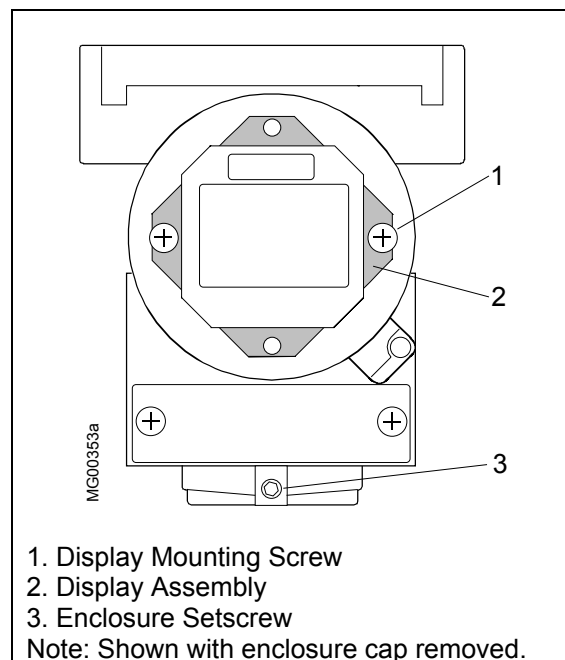

FIGURE 4-14 Display Removal and Repositioning
4. Use a Phillips blade screwdriver to remove the two screws holding the display. The display is electrically connected to the transmitter electronics by the display cable. Refer to Figure 4-14.